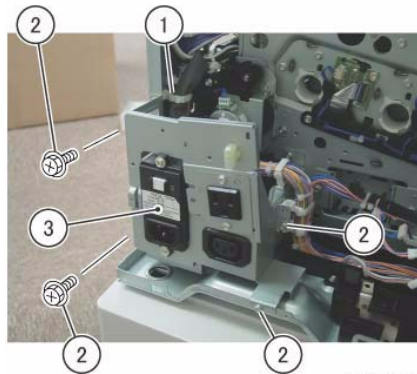

Figure 1 Slide the GFI Chassis Assembly
5. Slide the GFI Chassis Assembly. (Figure 1)